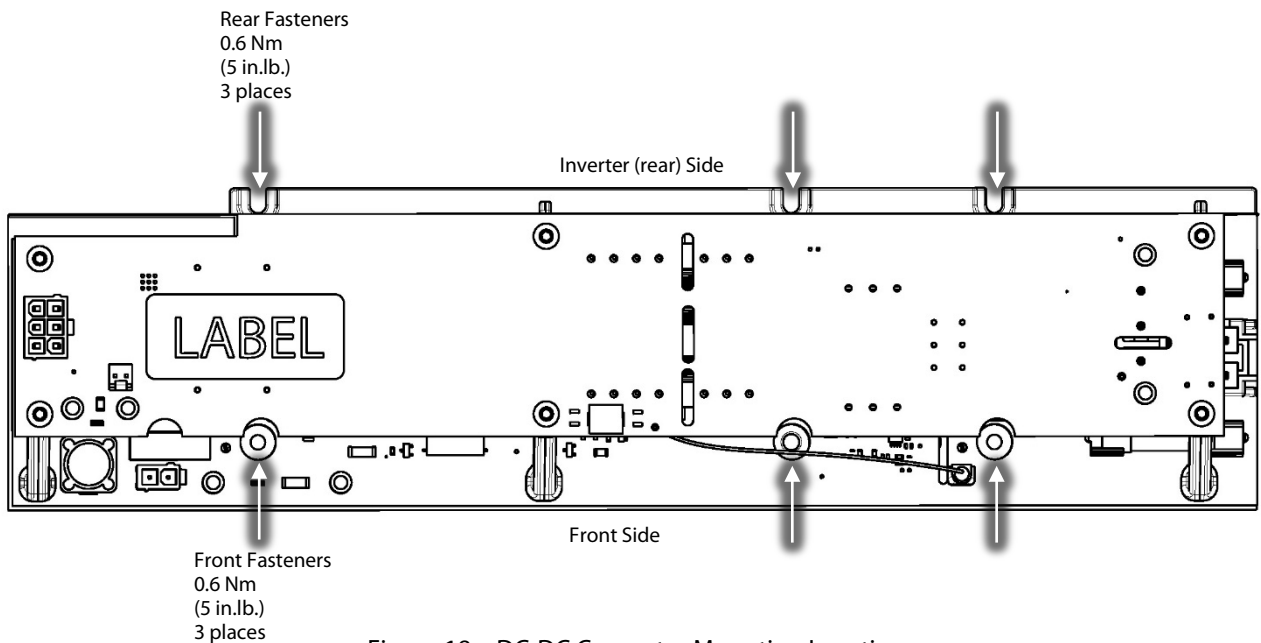

Figure 18 – DC-DC Converter Mounting Locations
- b. Install the new rear fasteners that secure the DC-DC Converter to the Inverter Heat Sink Plate. Do not tighten these fasteners; leave enough space under the fasteners to allow the DC-DC Converter to slide under the fasteners. Refer to Figure 18 – *Rear Fastener Installation*.